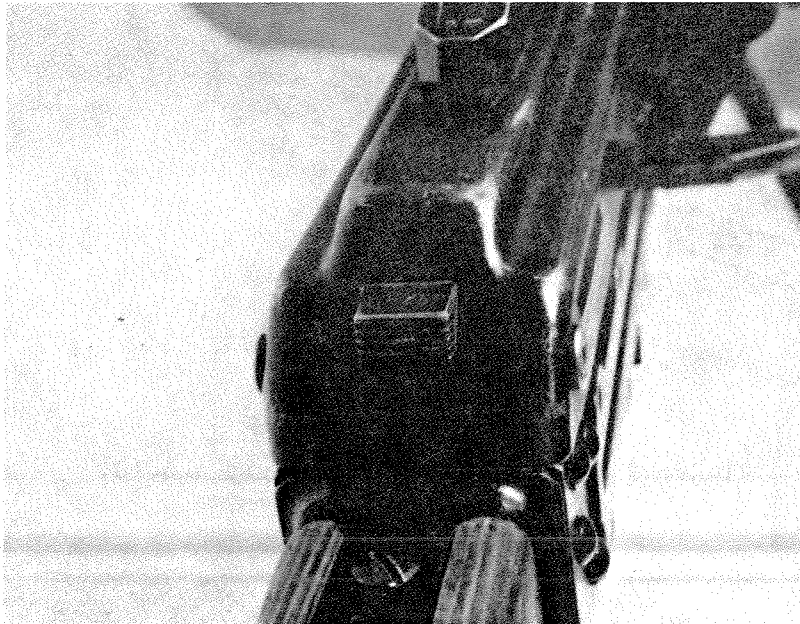

Figure 2-7. Receiver cover properly closed.
d. Close the receiver cover of the weapon, insuring that the receiver cover latch is engaged (fig. 2-7).